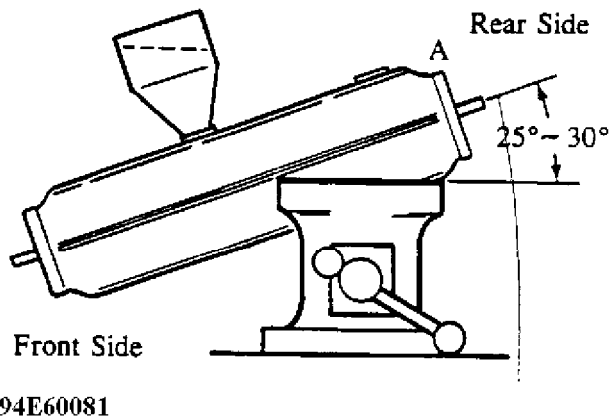

Fig. 15: Proper Positioning of Converter in a Vise
2. Hold the converter in a vise at an angle of 25°-30° as shown in Fig. 15.
5. Tap the converter repeatedly at point "A" (see Fig. 15) with a plastic hammer to allow the pellets to flow in until no more pellets can be put in.
9. Hold the catalytic converter at an angle of 25°-30° in a vise again (see Fig. 15).